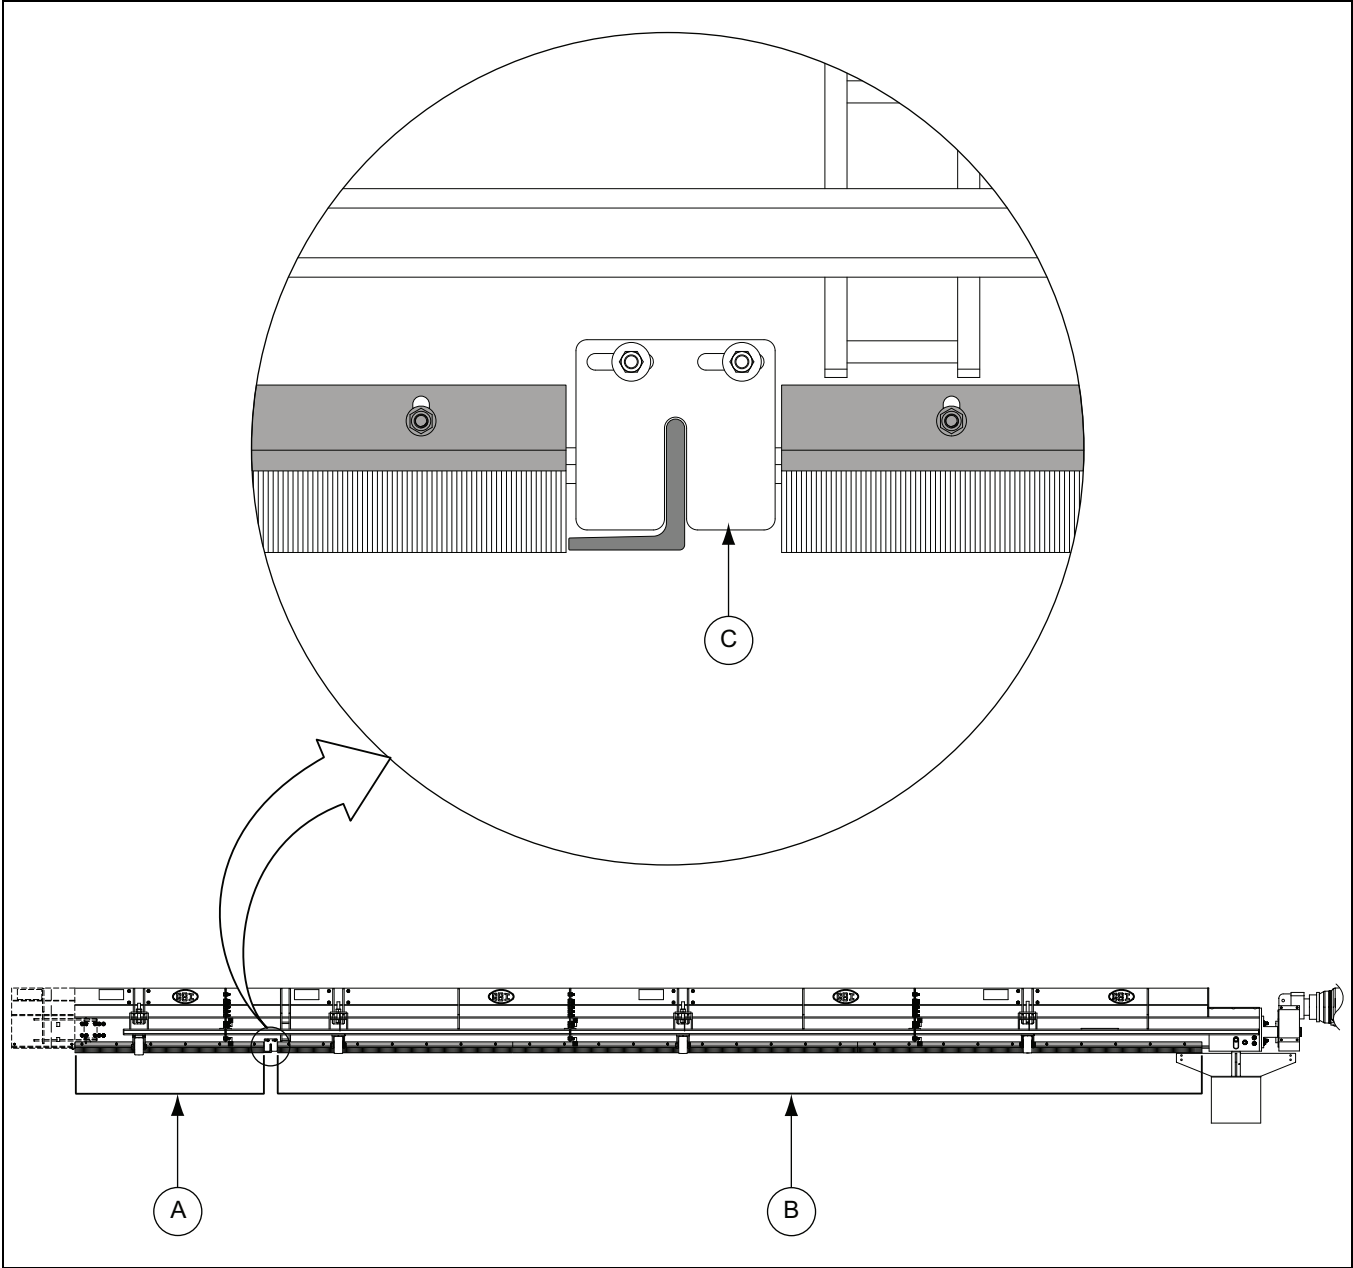

Figure 7H
- 1. Measure and record the brush length needed from the sweeper head (B) to the track wiper (C) and from the track wiper (C) to the end of the sweeper (A). (See Figure 7H.)